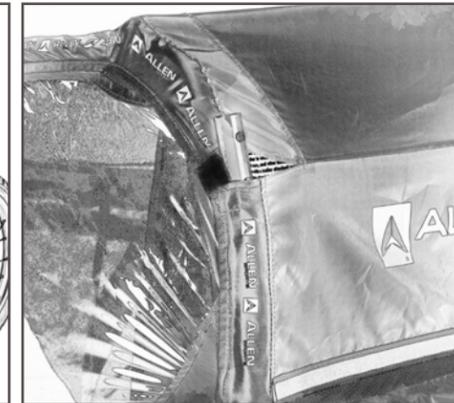

Figure 19
2. Wrap the Velcro backed fixing straps and secure the cover around the frame (Fig. 19).